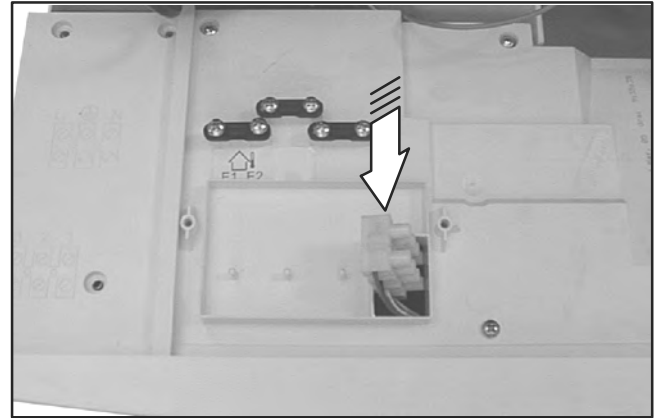

Fig. 2.7
- 9 Pass the terminal block connected to the boiler through the hole of the control panel lid (Fig. 2.7).